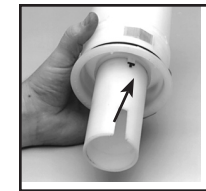

Figure 10.
9. Next, assemble the piston cylinder. First grease the O-ring on the piston cylinder, being careful not to get any on the valve plate, and then place the piston cylinder into the pressure cylinder. Screw the piston cylinder clockwise until it is tight and the bottom O-ring is no longer seen. Figure 10. When properly seated the notch on the piston cylinder (G) will line up with the indent on the pressure cylinder (H). Figure 11.